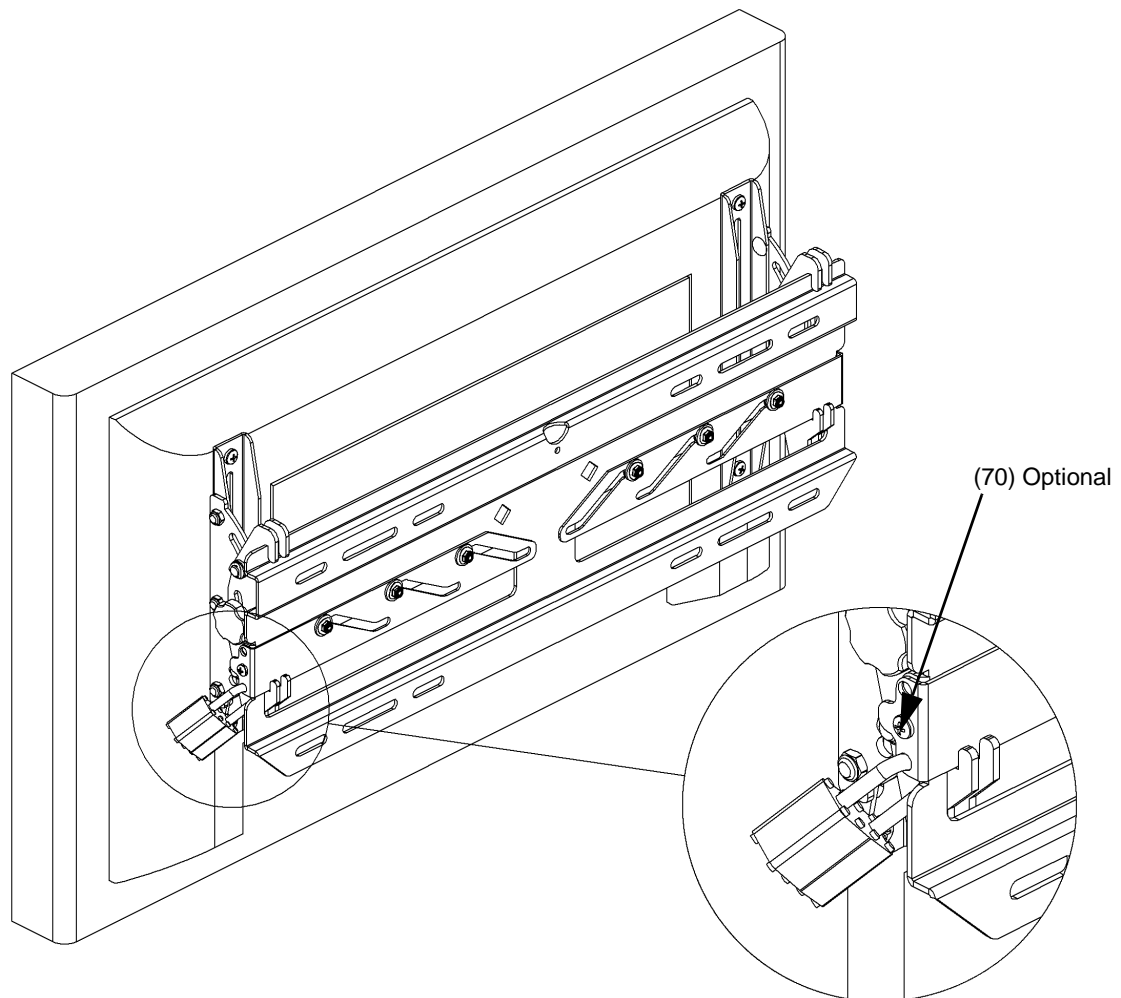

Figure 9. Install Display
3. If desired, install self tapping screws (70) and/or padlocks (not provided) for additional security (see Figure 9).